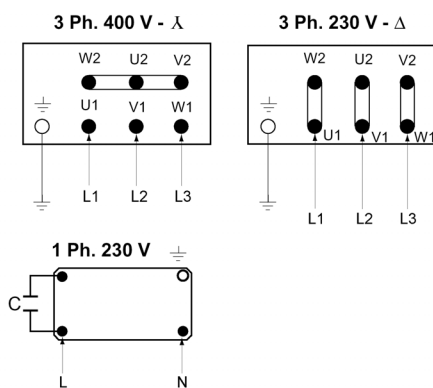

Fig. 4: Mains connection
- For mains connection see also Fig. 4.